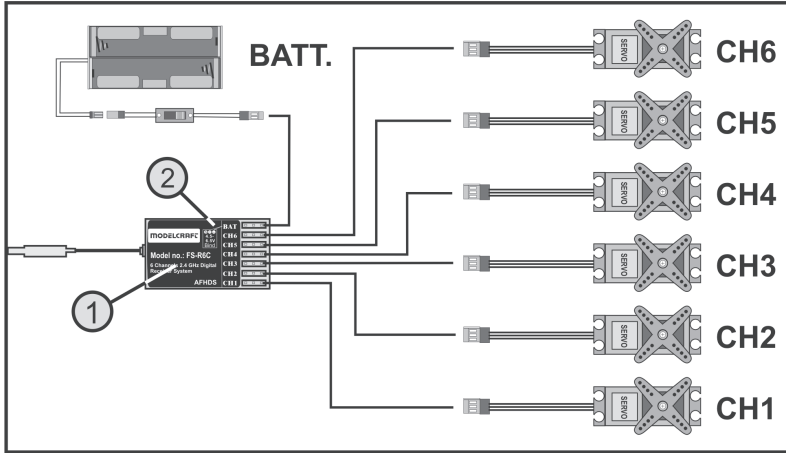

Figure 8
On its right hand side, the receiver (see figure 8, item 1) offers the option of connecting up to 6 servos with JR plug connectors:
The receiver has an LED display that serves mainly as an indicator for the receiver condition on one side (see figure 8, item 2).